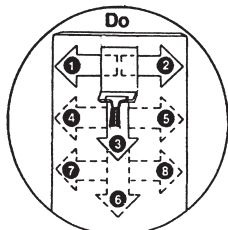

Figure 1
6.6 Use the appropriate squeegee to remove the excess application solution from between the film and the glass (see Figure 1), taking care to overlap the squeegee strokes.